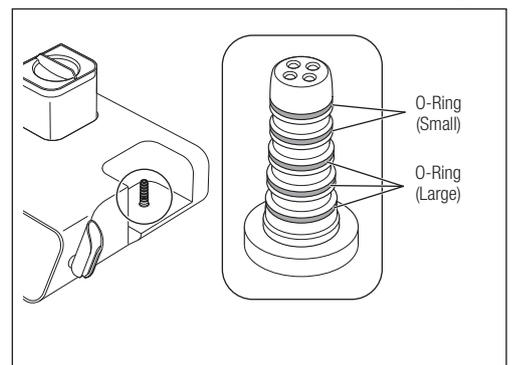

Fig. 48
- 1) Remove the O-rings from the Chamber Base Connector using a needle, etc. (Fig. 48).
• Since the size of the O-Rings differ, make sure to replace them in the correct location (Fig. 48).